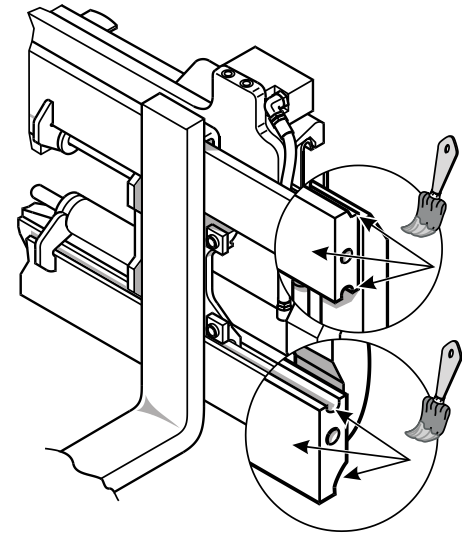

Figure 2-21 Fork Positioner, Non-Side Shifting
4. Using a brush, lubricate the shaded areas on the fork rails, including a thin film on the front face of both rails (See Figure 2-21).